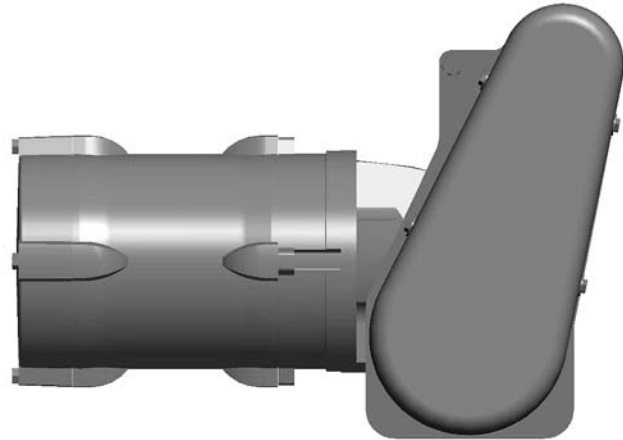
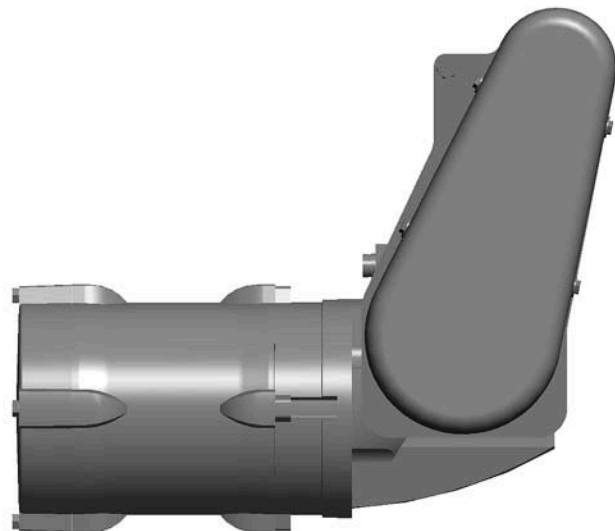

Figure 20
Figure 21
*Bottom 90° mount gearmotors should be oriented with the gear head up (**Figure 20**) for flat belt conveyors, and gear head down (**Figure 21**) for cleated belt conveyors.*